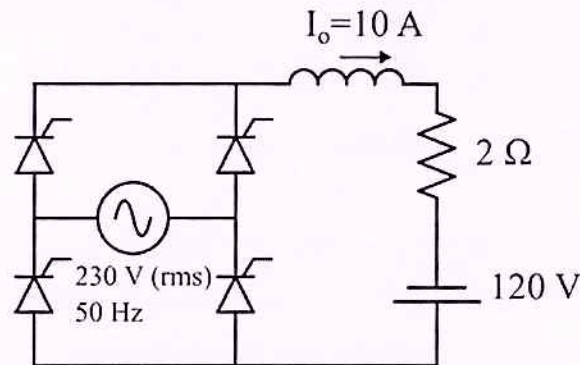

Figure 3
- 15 a) A single-phase fully controlled converter is used for the electrical braking of a separately excited DC motor. The DC motor load is represented by an equivalent circuit, as shown in Figure 3. Assume that the motor inductance is sufficient to maintain a continuous, ripple-free load current. Determine the firing angle of the converter for a load current of  $I_o = 10$  A. CO5 (3)